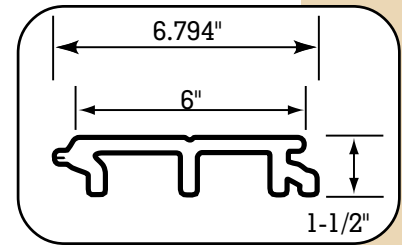

Fig. 1
- Tongue-and-Groove Planks (12', 16', 20' lengths; approximately 2.2 lb. per ft.) (Fig. 1)